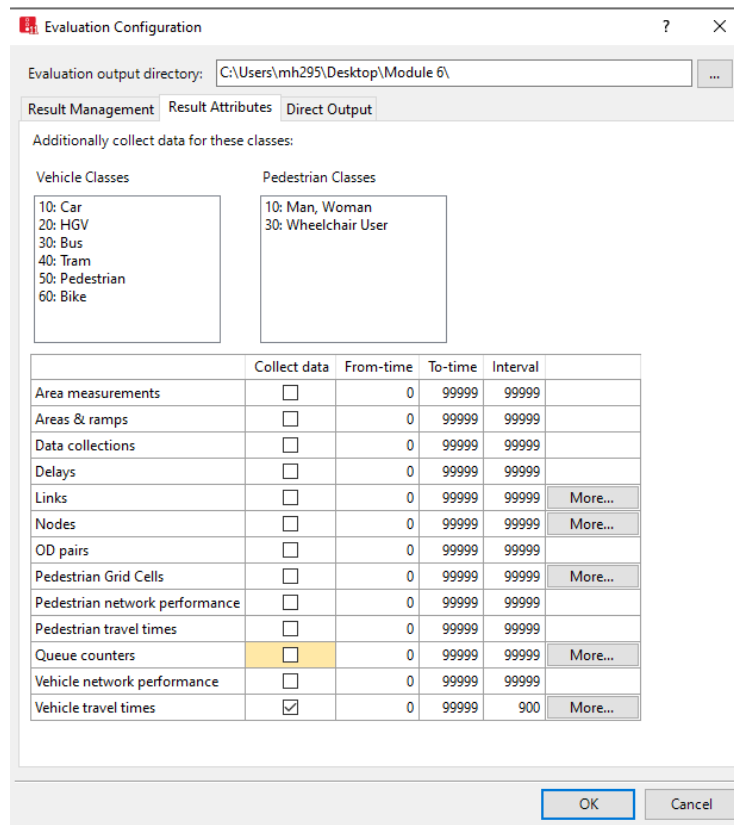

Figure 5: Travel time setting under *Evaluation* → *Configuration* → *Results Attributes*
- step ii. Select the *Results Attributes Tab*, Figure 5.